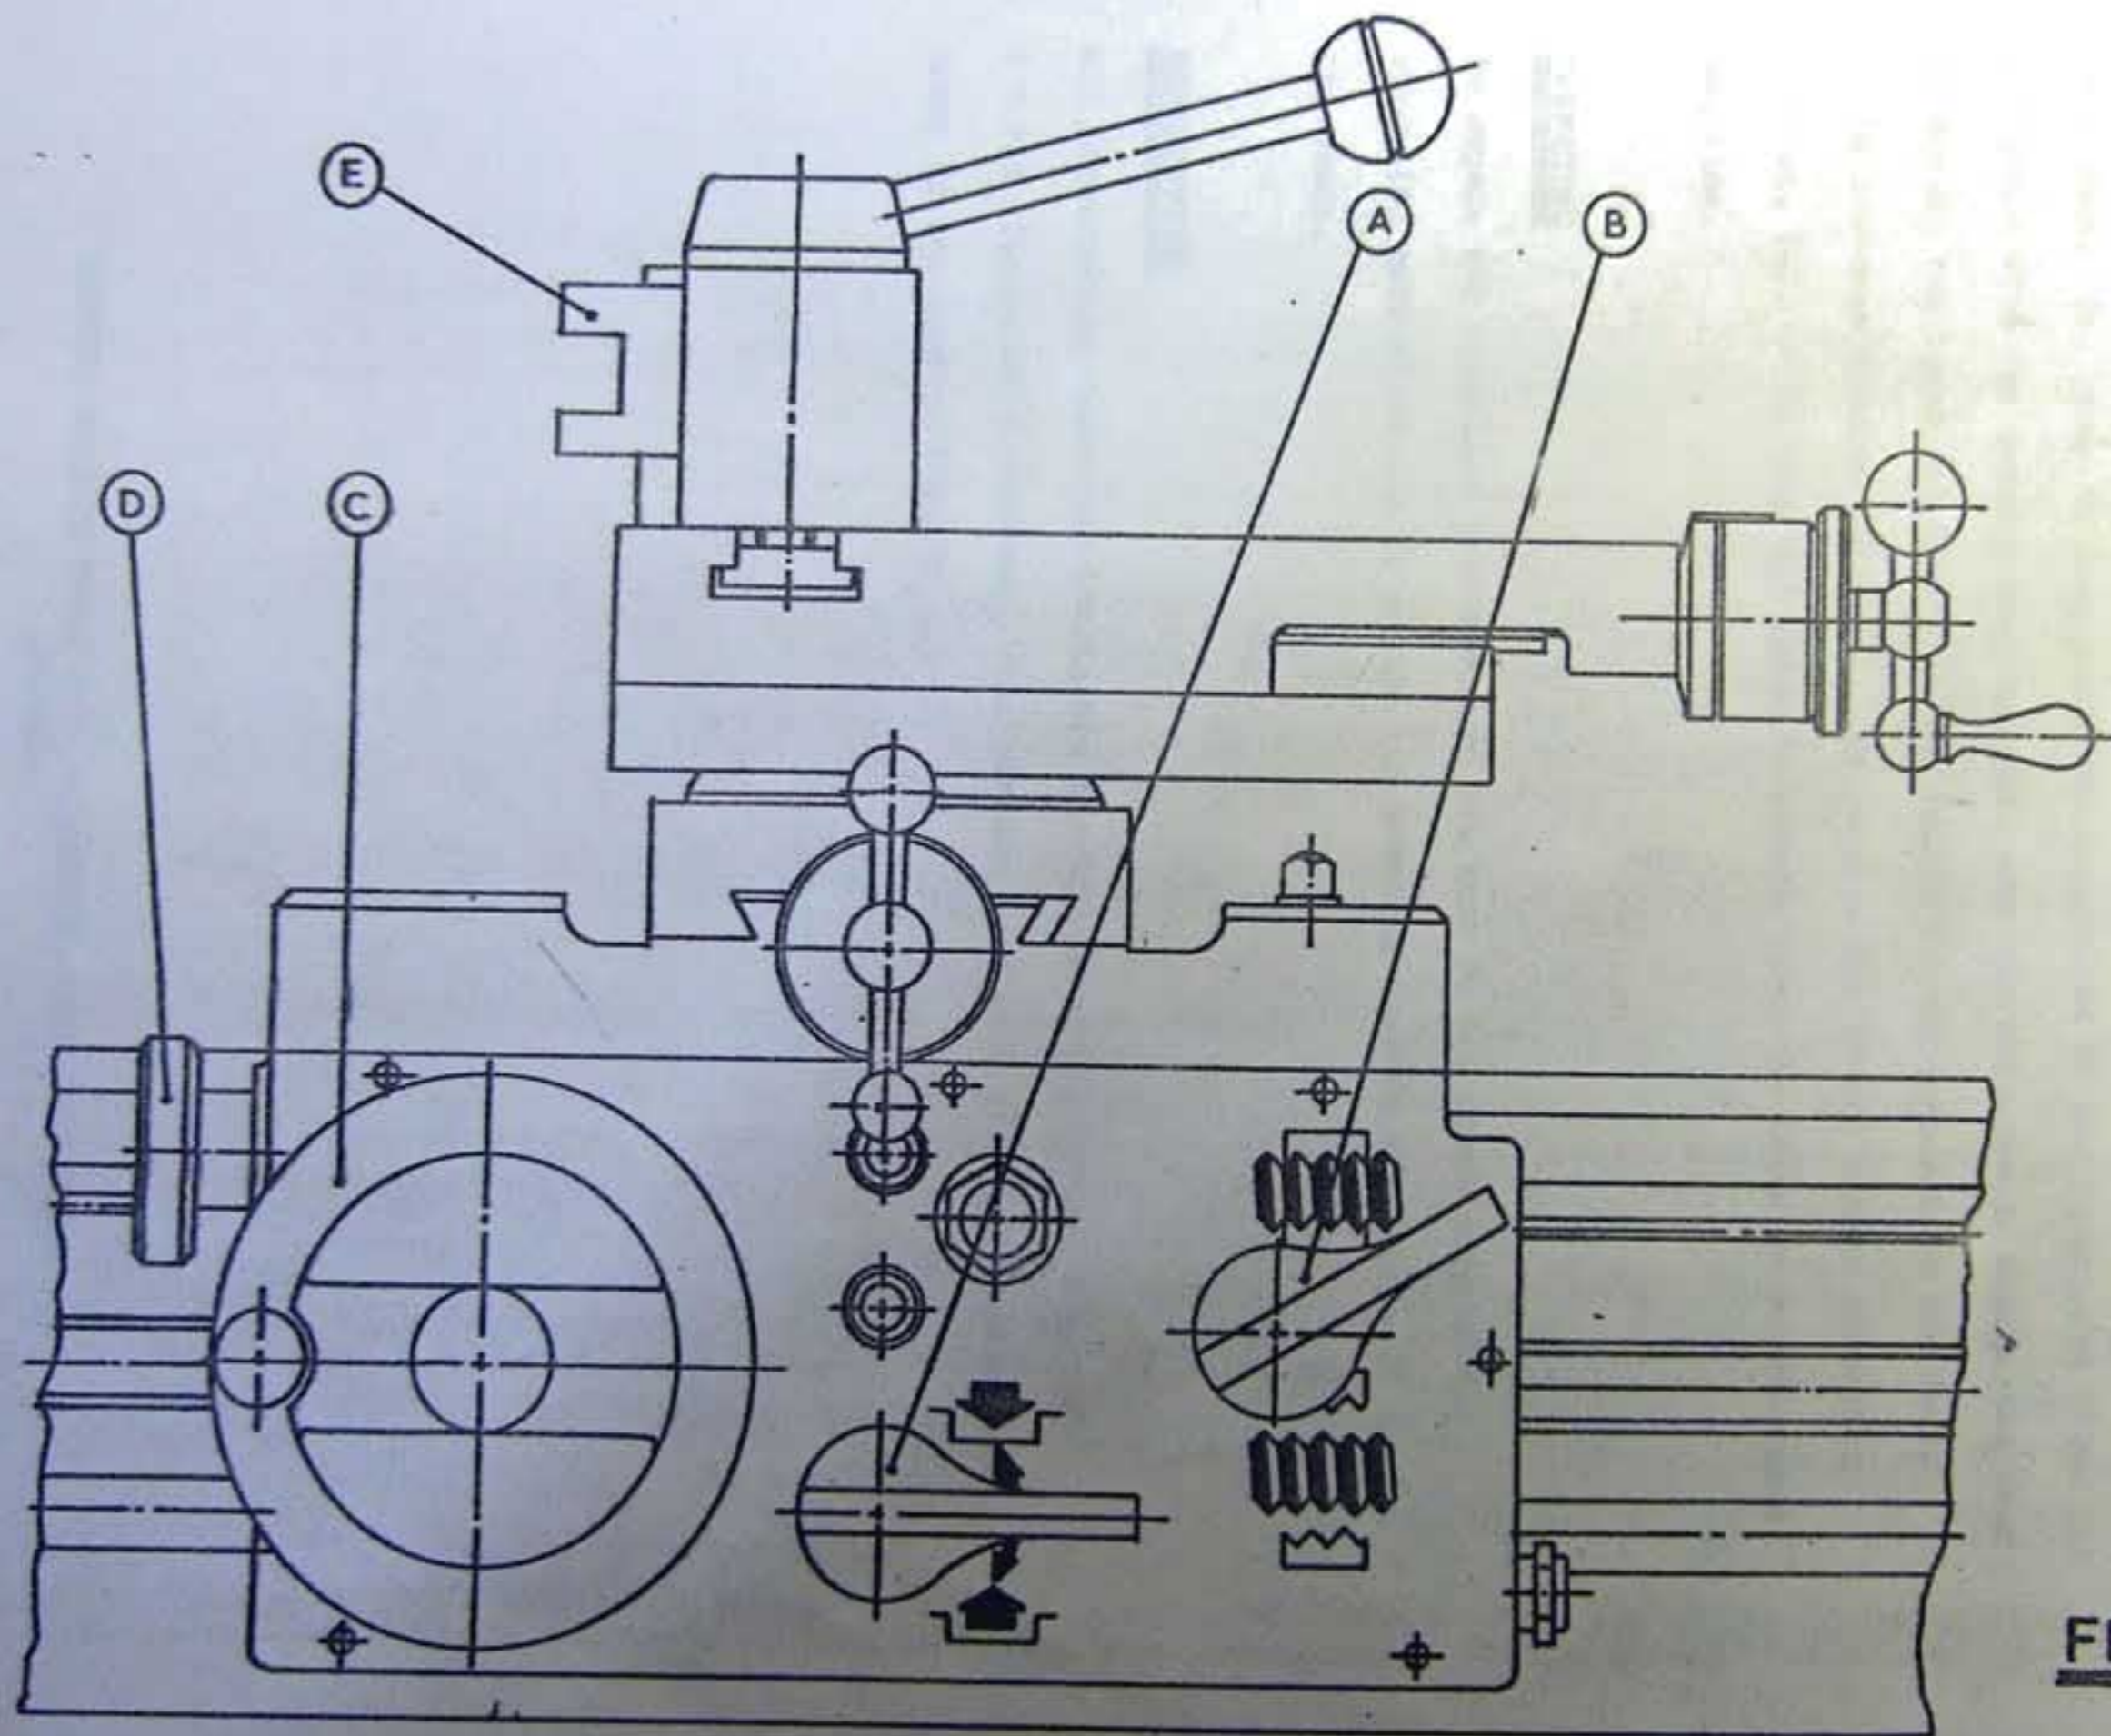

FIG 7.
The top slide can be swung to any angle for short taper turning operations by hand. There are three types of toolpost available- the two-way is standard to the 280VS lathe, a four-way and Quick Change toolpost (E) Fig.7 is also available for repetitive work.
Select feed from the chart on the gearbox and set the levers to the appropriate positions. The apron is then ready for engagement on the feedshaft. Clear the workpiece with the cutting tool and pull down the chip guard. Engage the feed by moving the lever (A) Fig. 7 in the centre of the apron. Move the lever up to traverse towards the chuck. To reverse the travel engage reversing bracket, (G). To stop the apron traversing move the lever to a horizontal position.